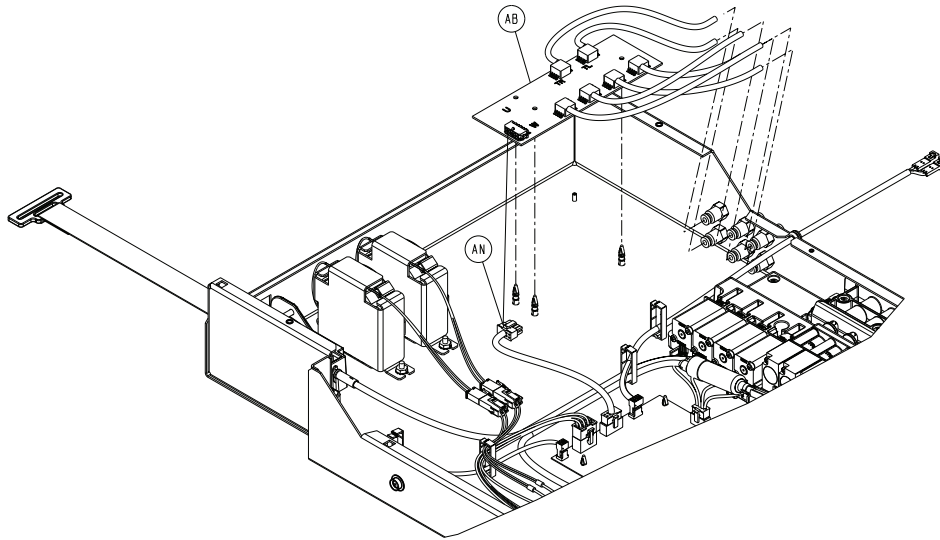

Figure 23 – Sensor board
3. Disconnect the cable (AN) from the sensor board (AB) (Figure 23).
4. Using needle nose pliers, lift up the sensor board (AB) enough to disconnect it from the three plastic standoffs.